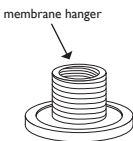
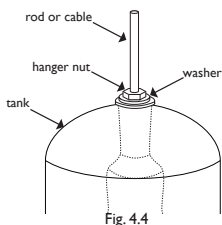

Fig. 4.1
Fig. 4.4
4. Remove the nut and the washer on the top of the tank which is attached to the membrane hanger that is anchoring the top of the membrane (fig. 4.1, fig. 4.4).
10. Slip the washer and then the hanger nut over the end of the rod/cable and tighten onto the exposed connector (fig. 4.4).